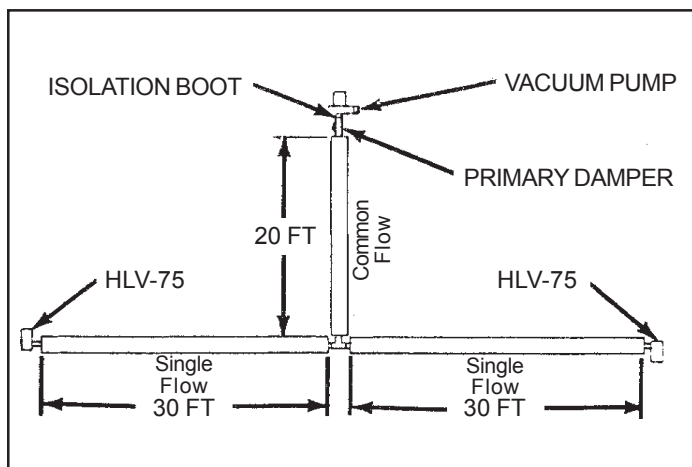

Figure 2-2
**Single Flow** – The radiant pipe in a run from the burner box to the first intersection (tee or cross). Refer to figure 2-2.
**Common Flow** – The radiant pipe in a run between the first intersection (tee or cross) and the exhauster. 'Common Flow' begins at the point where two (2) or more burners share a common exchanger. Refer to figure 2-2.
**Calculated Run** – Calculated run is determined by adding the total 'single flow' plus **one half** of the 'common flow' of Pipe. For Example, if an **actual** run, has 30 feet of 'single flow' and 20 feet of 'common flow', this equals 40 feet (30 ft. + one half of 20 ft.) of **Calculated Run**. Refer to figure 2-2.